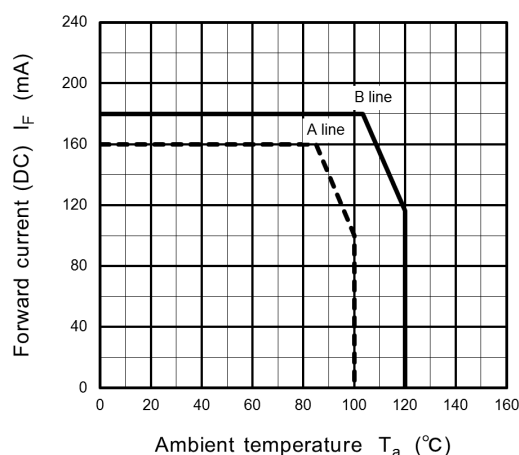

Fig. 4.1 $I_F - T_a$ (Note 1), (Note 2)
| Forward current (DC) | See Fig. 4.1. | I_F | 180 | mA |
Junction temperature B: The device temperature is between lines A and B shown in Figure 4.1 ($125\text{ }^{\circ}\text{C} < T_j \leq 150\text{ }^{\circ}\text{C}$). Because the device becomes so hot, it could be damaged in a short period of time. Therefore, in this temperature range, the device must not be used for any applications other than camera flashlights and similar applications (with a short lifetime on-time).